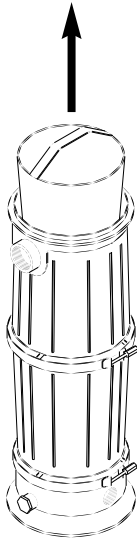

Figure 5: Lift basket to remove.
A. Remove bag (see Figure 5) and dump spent DE into waste container.